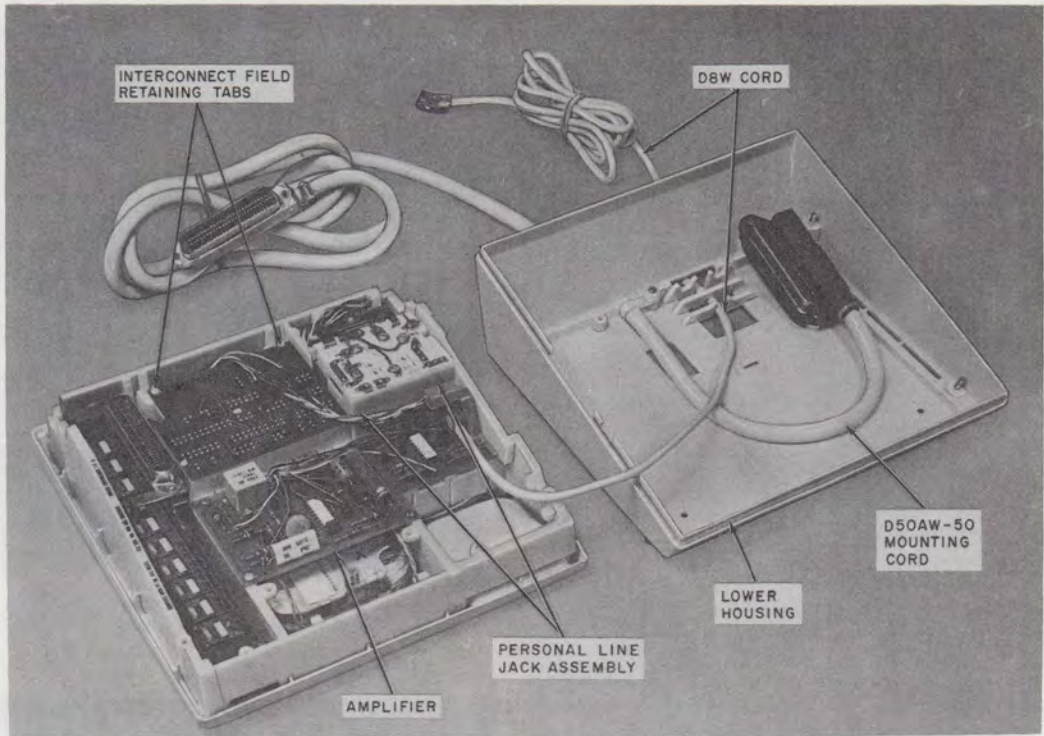

Fig. 56—Basic Satellite Desk Set Disassembled
5.14 With the lower housing off (Fig. 56), the following components are accessible: